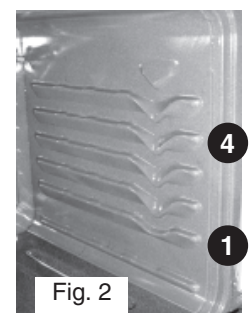

Fig. 2
3. When using 2 oven racks at the same time, place in positions 1 & 4 for best results (See Fig. 2).